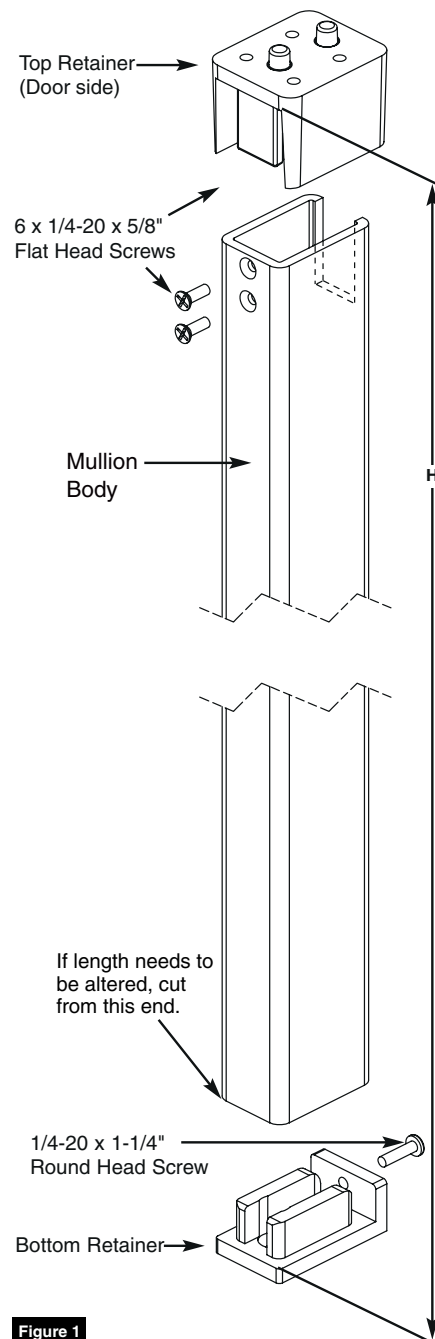

Figure 1
5. Install top retainer using four (4) 1/4-20 x 5/8" flat head screws. (Figure 1 on page 1)
1. Measure distance (H) between inside surface of top retainer and top of bottom retainer surface. (Figure 1 on page 1)
2. Cut off bottom of mullion body to desired length (L), using formula: